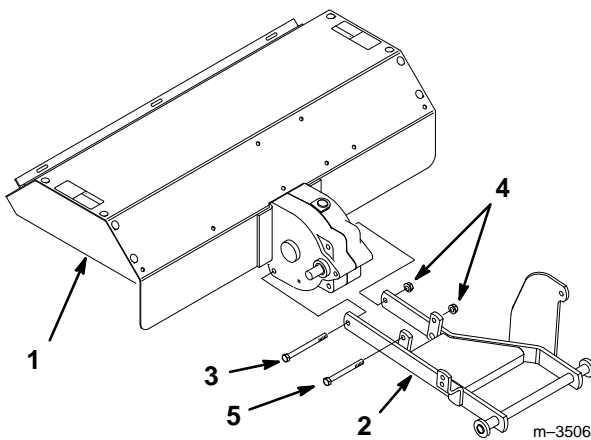

Figure 1
1. Support the tiller housing so it sets in an upright position. Remove the 3/8 x 5-1/2" (140 mm) bolt, 3/8 x 4-1/2" (114 mm) bolt, and (2) 3/8" locknuts; discard the 1/2" nuts (used as spacers for shipping).
2. Attach the tiller lift frame to the tiller housing with the previously removed 3/8 x 4-1/2" (114 mm) bolt, 3/8-16 x 5-1/2" bolt (140 mm), and (2) 3/8" locknuts (Fig. 1). Torque the nuts to 30-32 ft-lbs.